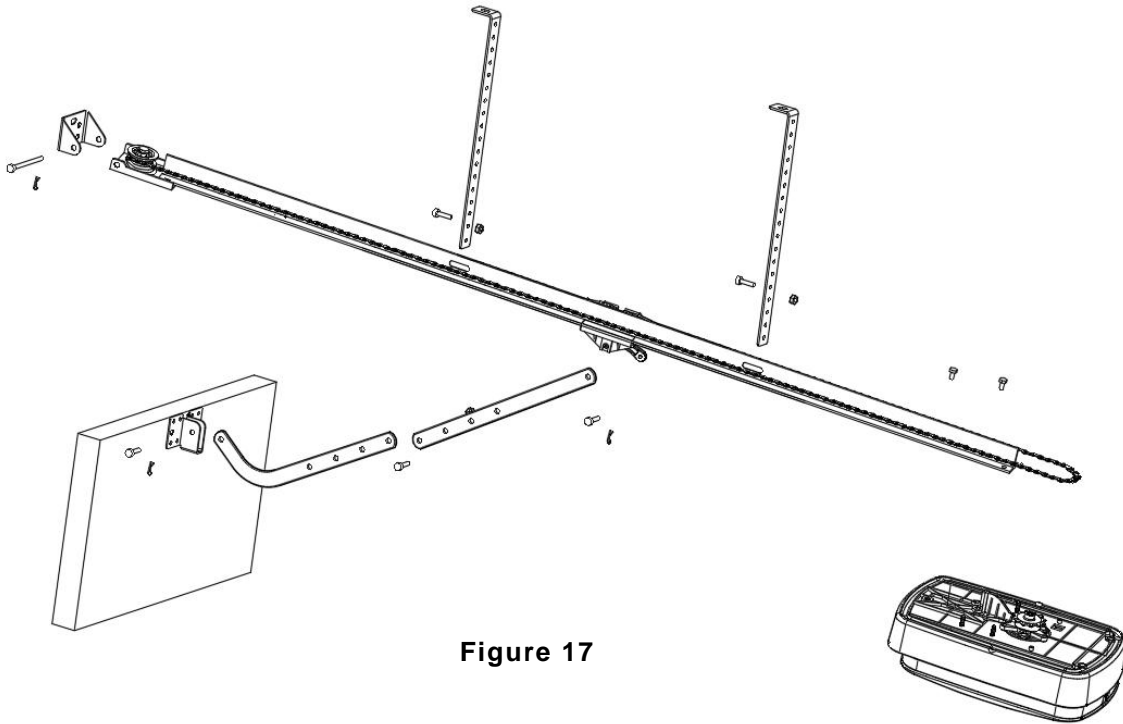

Figure 17
STEP1 (Fig.17)
STEP2 (Fig.17)
STEP3 (Fig.17, Fig.18)
STEP4 (Fig.17, Fig.19)